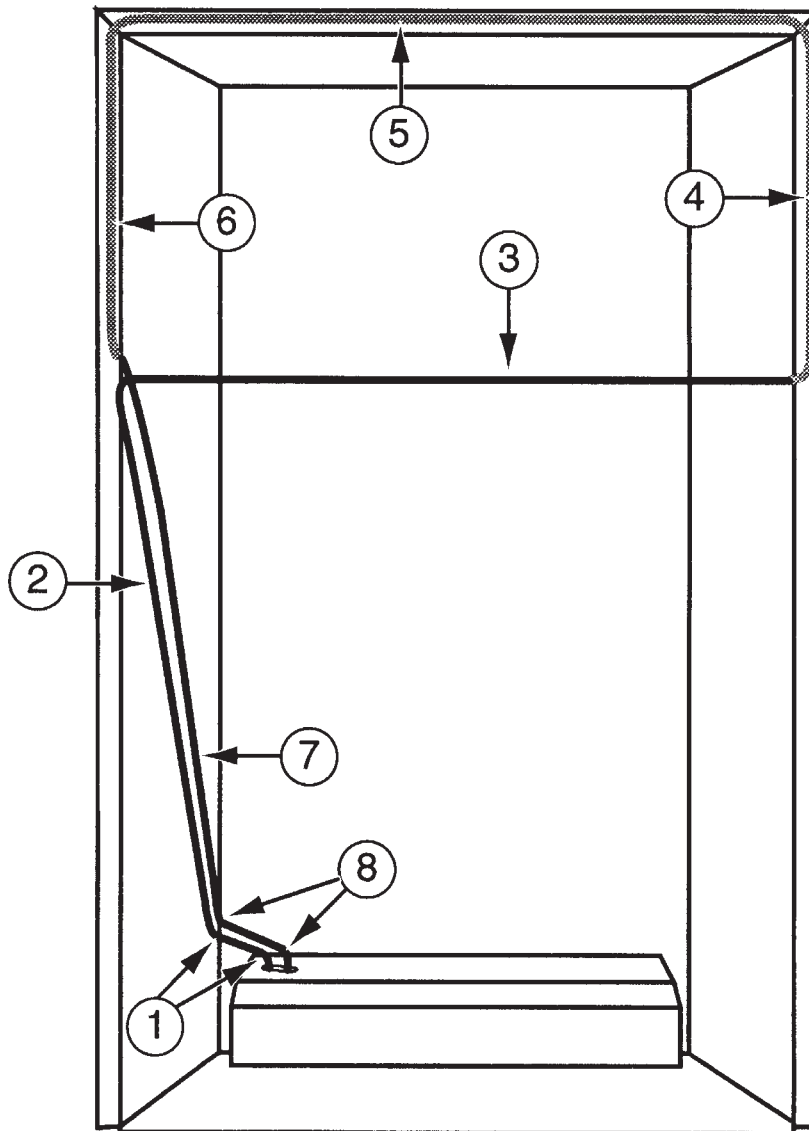

Fig. 44
The heat loop enters the cabinet through a grommet at the bottom and bends to the left side (1). It then angles up to the front of the cabinet (2). At the separator between the refrigerator and freezer compartments, the loop turns right and travels across the mullion (3); then up the right stile (4); across the top mullion (5) and down the left stile (6). The loop then angles back toward the left rear corner of the cabinet (7). Finally, it turns in (8) and down through a grommet. (Fig. 44)